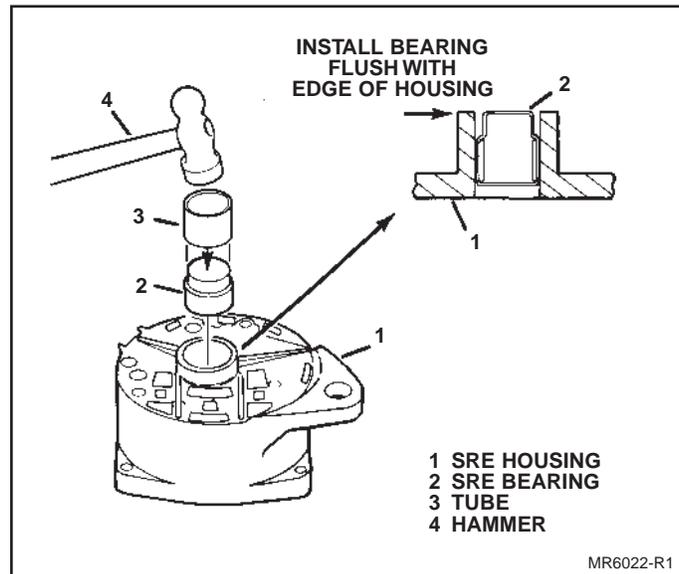

Figure 23. SRE Bearing Installation
4. SRE bearing into SRE housing (Fig. 23). Use thin-wall socket or tube slightly smaller than hole in SRE housing to drive bearing in from outside. Position bearing flush with outside lip of SRE housing. Cover opening in bearing with piece of tape to prevent dirt from entering during rest of procedure.